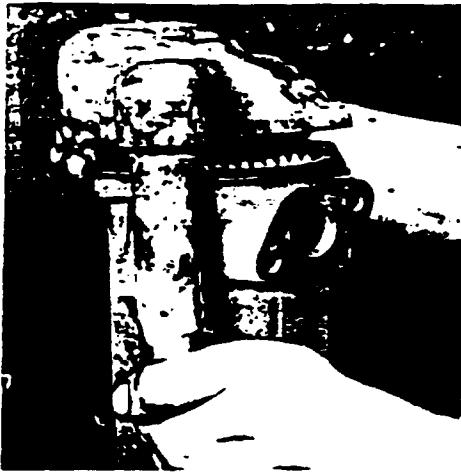

Figure 2-304. Installing Inlet End Cap
10. Install water inlet end cap. See Figure 2-304.